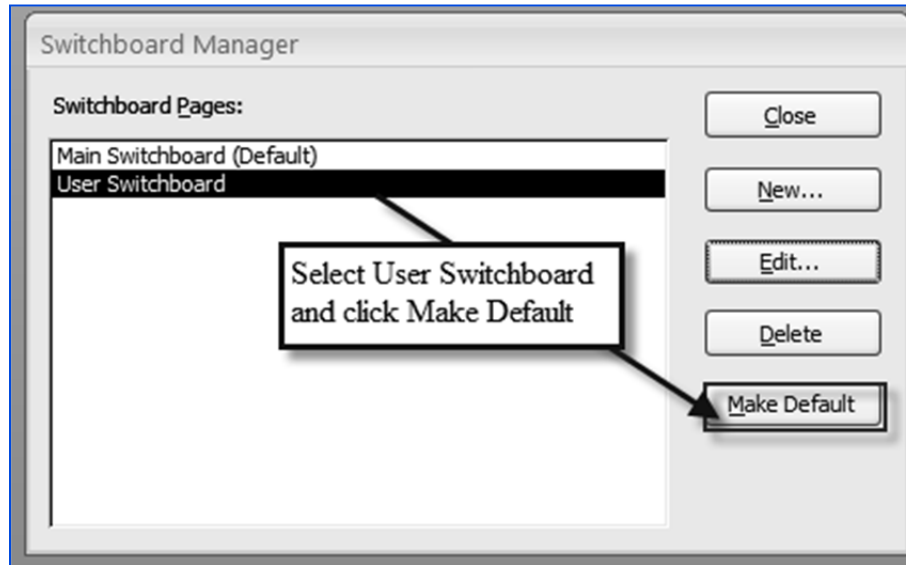

Fig. 4.3.14: Make User Switchboard as Default Switchboard
14. The *Switchboard Manager* window appears. Select *User Switchboard* and click the *Make Default* button. This option will set the *User Switchboard* as default switchboard. The *Switchboard Manager* window appears, as shown in Fig. 4.3.14.